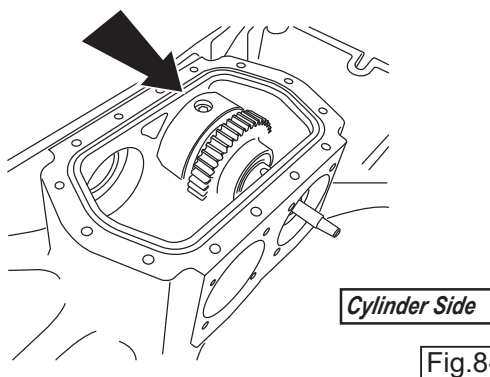

Fig.8-33
- j. Insert the driven shaft into the vibrator case. (Fig.8-33)